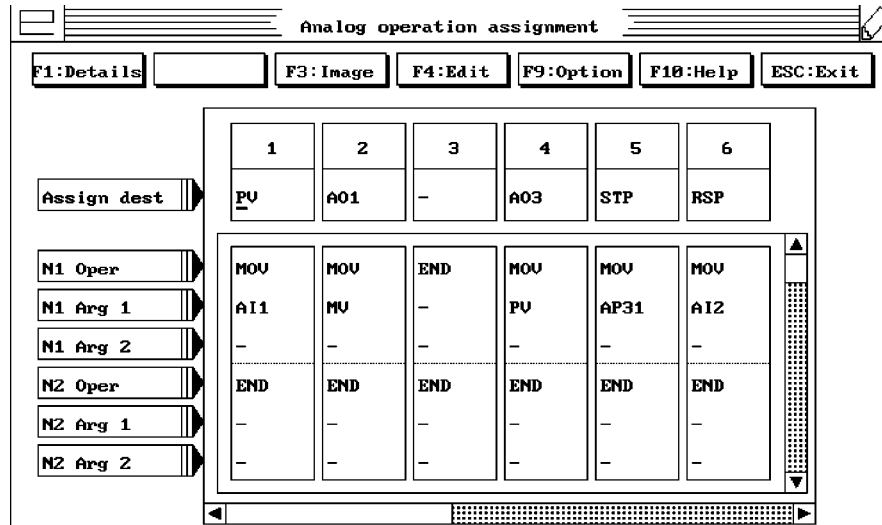

Figure 8
3. Double-click on the **Analog oper** button. The Analog operations assignment menu will appear (Figure 8).